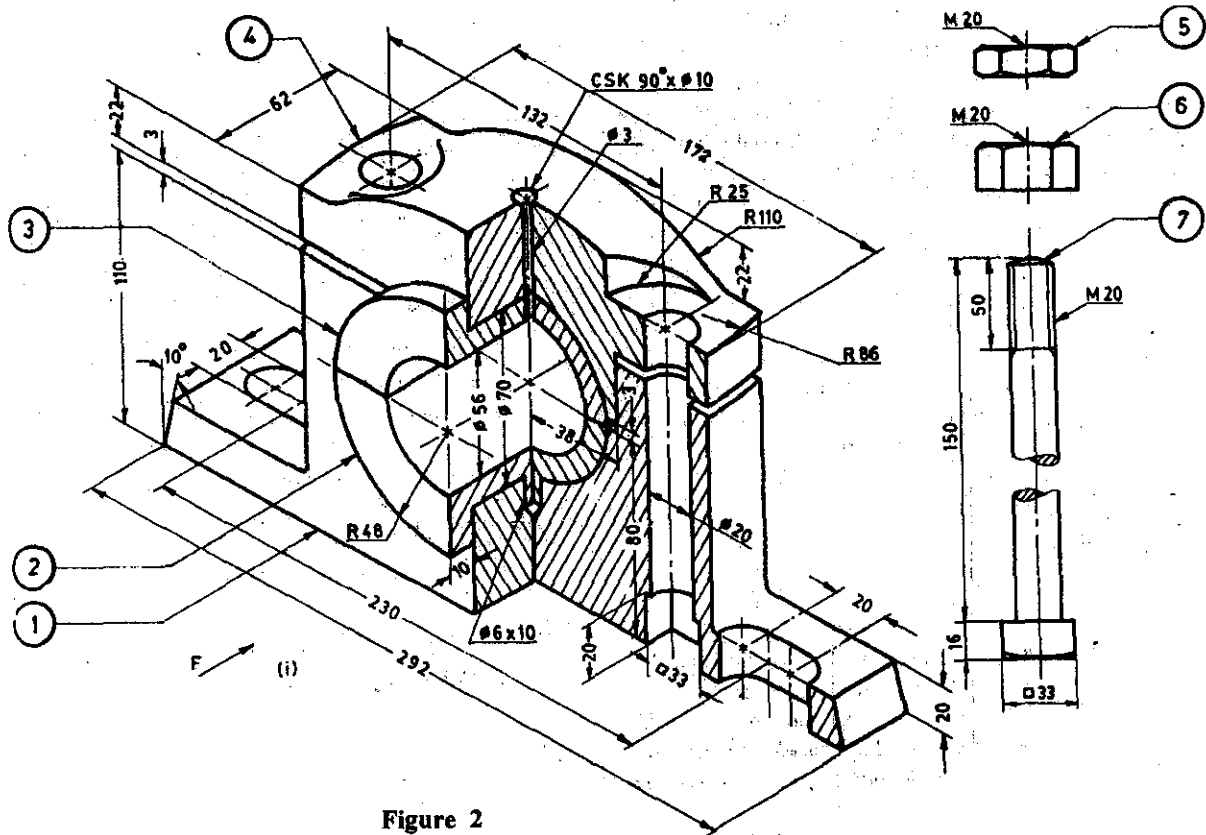

Figure 2
- IV. An isometric view of a bushed bearing is shown in the Figure 2. Draw the following views: